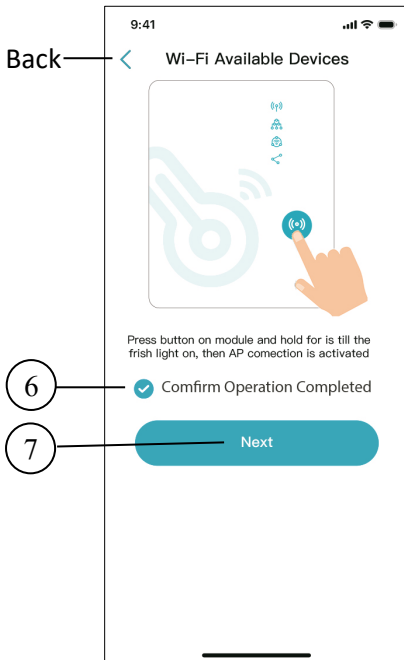

Fig.7 WiFi Module on interface
1. Follow the instructions on the page (Fig.7), press button on module and hold for 1s till two lights on, then AP connection is activated, click 6 to confirm, click 7 to turn the page;